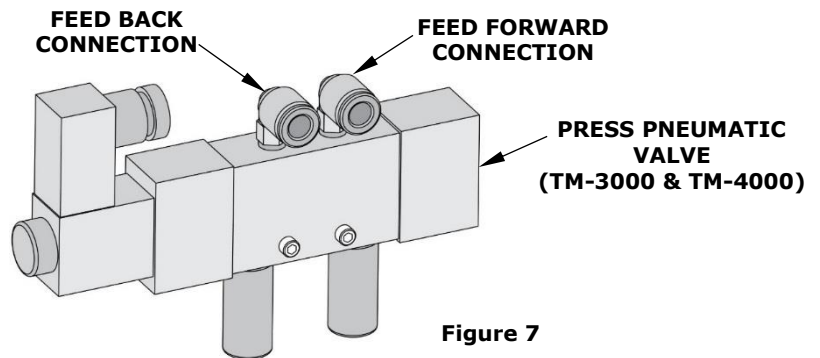

Figure 7
- When using the TM-3000 or TM-4000 presses, connect the tubes to the press pneumatic valve as shown in Figure 7.